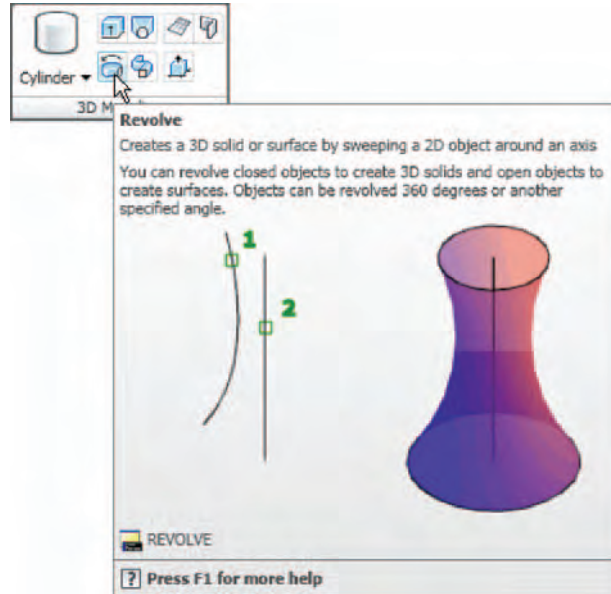

Fig. 12.20 The **Revolve** tool from the **Home/3D Modeling** panel
3. Call the **Revolve** tool from the **Home/3D Modeling** control panel (Fig. 12.20). The command line shows: